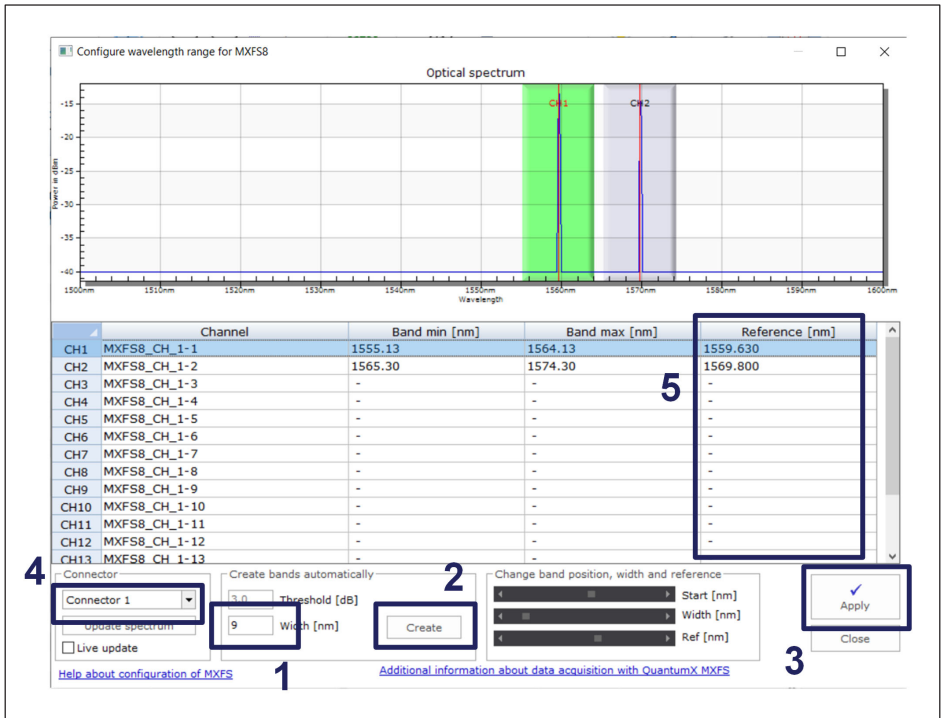

Fig. 5.2 Create ranges
- Define a width value for the band automatic creation of 9 nm (number 1 in Fig. 5.2).
- Perform an automatic creation of bands by pressing the “Create Button” (number 2 in Fig. 5.2).
- Apply the configured ranges to the device for the selected connector by pressing the “Apply” button (number 3 in Fig. 5.2).
- Repeat the process for all connectors, by changing the selected connector (number 4 in Fig. 5.2).
- Define FBG’s reference wavelengths as presented on the calibration sheets (number 5 in Fig. 5.2)
- Apply settings (number 3 in Fig. 5.2)
- Repeat for all connectors by changing the selected connector (number 4 in Fig. 5.2)